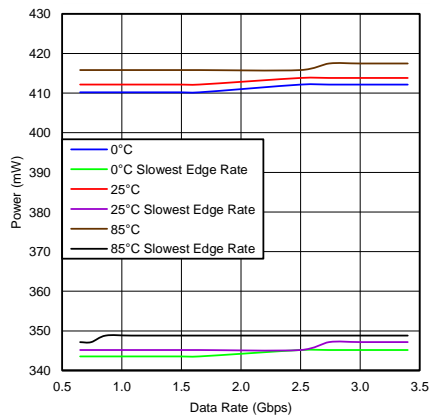

Figure 15. Power Dissipation vs Data Rate
- TMDS output edge rate control has impact on the SN75DP139 Active power. See Figure 15. TMDS output edge rate can be controlled by SRC pin. Slower output Edge Rate Setting helps in reducing the Active power consumption.